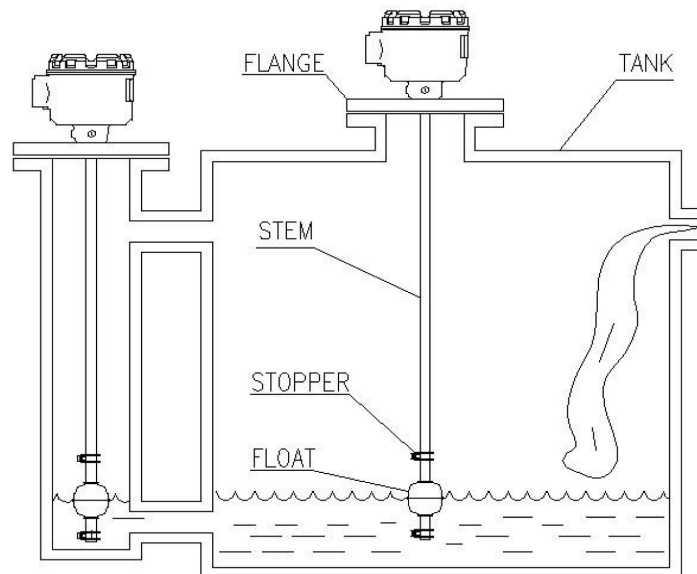

Fig. 1
- 1) Install it like as shown on following Fig1.